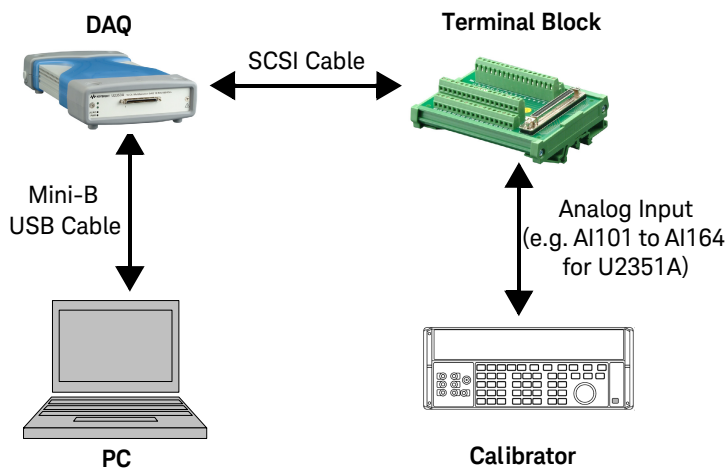

Figure 2-6 The analog input and calibrator connection
- 5 The **Keysight Interactive IO** dialog box will appear as shown in Figure 2-6. Click **Send & Read** to send the “*IDN?” default command. This instrument’s response should appear in the **Instrument Session History** panel.